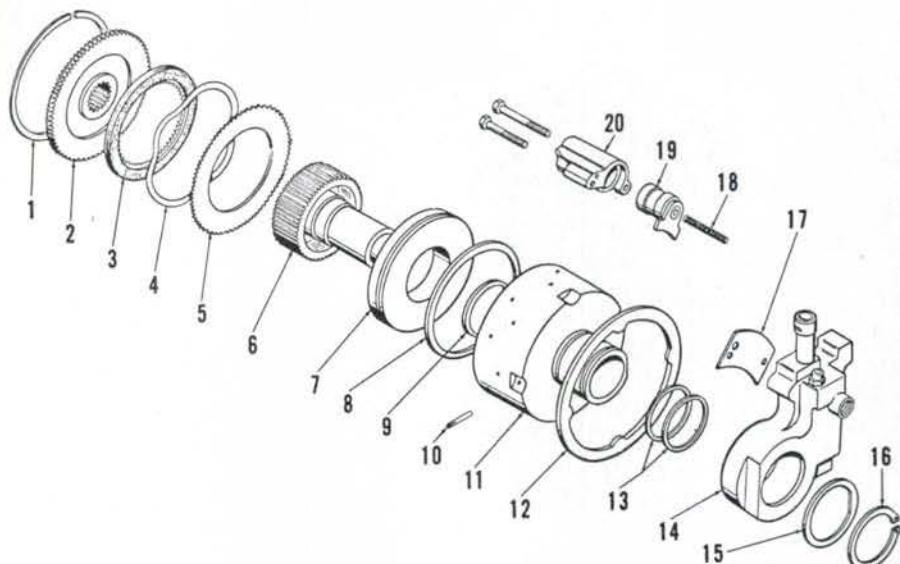

Fig. 167—Exploded view of independent pto multiple disc clutch and hydraulic brake unit.
181. OVERHAUL. To disassemble the removed clutch and valve unit, proceed as follows: Remove snap ring (16—Fig. 167) and thrust washer (15), then withdraw control valve housing (14) with brake cylinder (20) from clutch housing (11). Brake disc (12) is retained to clutch housing by two pins (10). Unbolt and remove brake cylinder (20), piston (19) and wear plate (17) from valve housing.
Install seal rings (13—Fig. 167) on clutch housing and lubricate with hydraulic oil. Install valve housing (14), thrust washer (15) and snap ring (16). Assemble brake piston (19), spring (18) and cylinder (20). Position wear plate (17) under brake disc, then install brake cylinder assembly using a new "O" ring.